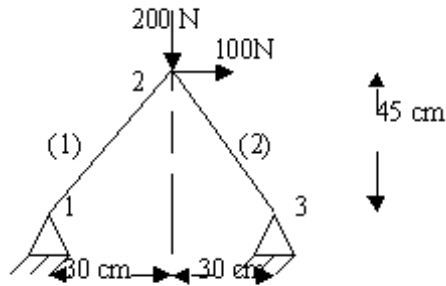

Figure 5
8. Consider the two bar truss structure shown in the figure5. The elements properties are $E_1 = 20 \times 10^{11} \text{ N/m}^2$; $E_2 = 10 \times 10^{11} \text{ N/m}^2$; $A_1 = 100 \text{ mm}^2$; $A_2 = 200 \text{ mm}^2$. Calculate the displacement at node 2 and stresses in the elements 1 and 2. [16]